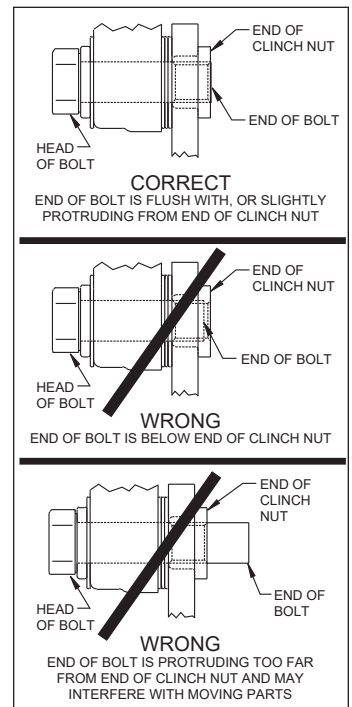

Figure 5. Clinch Nut Engagement Diagram
Assembly Instructions (numbers in parenthesis refer to the parts list, and Figure 2 on the preceding pages): **CAUTION:** All mounting bolts must fully engage clinch nuts. Be sure to check that all bolts are either flush or protruding through flanged side of clinch nut after shimming, Figure 5.
- Pack the small outer bearing cone (14) with high temperature disc brake bearing grease and install into hub (7). Slide the hub/rotor assembly onto the spindle. Secure using spindle washer (15) and OEM spindle nut, Photo 7. Adjust bearings per OEM specifications. Install saved OEM nut lock (if any) and a new cotter pin (not included).
- Screw dust cap (17) into hub (7), Photo 8. Friction created by the o-ring (16) on the dust cap keeps it from unscrewing. **NOTE:** The O.D. of the existing OEM spindle washer may be larger than the I.D. of the dust cap not allowing it to seat against the hub face. Therefore, use the spindle washer (15) supplied with the kit instead of the OEM washer.
- NOTE:** Please reference the caution statement at the beginning of the assembly instructions. Mount the caliper (18) onto the caliper mounting bracket (1) using bolts (20) and washers (19), as shown in Figure 2. Initially place two .035" thick shims (21) on each bolt between the caliper and the bracket, Photo 9. Temporarily tighten the mounting bolts and view the rotor (11) through the top opening of the caliper. The rotor should be centered in the caliper, Photo 10. If not, adjust by adding or subtracting shims between the bracket and the caliper. Always use the same amount of shims on each of the two mounting bolts. **NOTE:** The end of each bolt must be flush with or slightly protruding from the head of the clinch nut, as shown in Figure 5. If necessary place spare shims between washer (19) and caliper mounting ear to achieve the proper clinch nut engagement. Once the caliper alignment and clinch nut engagement are correct, remove the bolts one at a time, apply red *Loctite*® 271 to bolt threads, and torque to 40 ft-lb.
- Install the disc brake pads (22) into the caliper, with the friction material facing the rotor (11), and secure in place using the pad clip retainer (23), Photo 11.